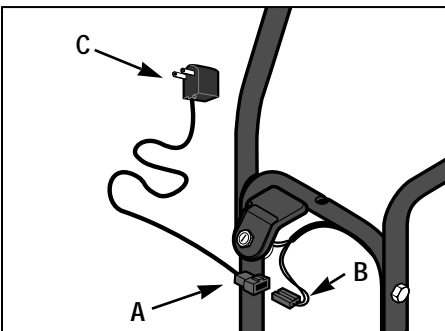

Figure 5-14
1. Connect the terminal (A, Figure 5-14) on the supplied battery charger to the recharging line receptacle (B) on the keyswitch wiring harness.
2. Plug the charger box (C, Figure 5-14) into a grounded, 120V wall outlet. Charge the battery for 24 hours. After charging, unplug the charger box (C) from the wall outlet and disconnect the terminal (A) from the receptacle (B).